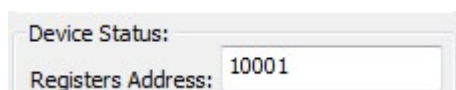

Figure 5.51 Bit Mode selection
1. Select "Detailed Design"->"device status"-> the drop-down box corresponding to"Bit mode", the Bit mode range is 1~16, as shown in Figure 5.51